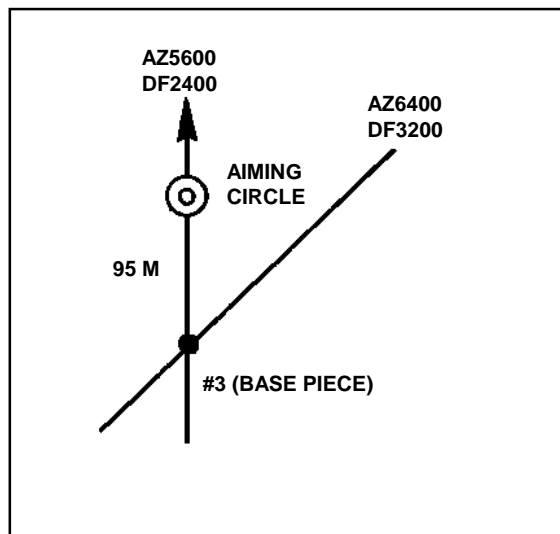

Figure E-4a. Determination of piece displacement.
b. The clear rotating disk of the plotting board is used to plot the location of each mortar. The disk has an azimuth scale around the outside edge; a temporary lay deflection scale must be superimposed on the disk. The lay deflection scale increases from left to right as does the azimuth scale. Deflection 3200 always corresponds to the azimuth of lay when determining piece displacement (Figures E-4a to E-4d). Once superimposed, the lay deflection scale is used to plot the location of the aiming circle and the mortars.